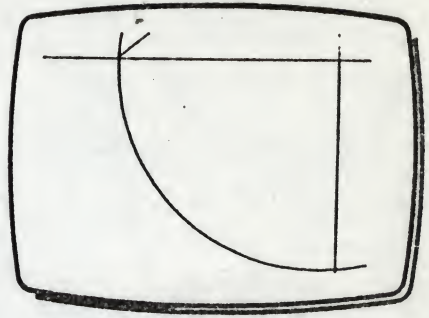

Fig 6
- 3 Press and release T, and the framed area will appear full-screen, (5) in Fig 6.